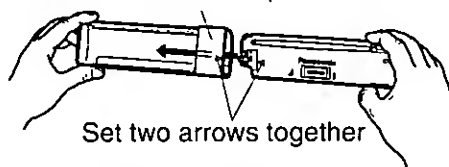

Fig.3
- ④ As shown in Fig.3, insert the removable face plate with the arrow pointing toward the removable face plate case until you hear a "click". Keep the removable face plate in the case. Then, you can bring the plate safety.
⑩ Removable face plate case